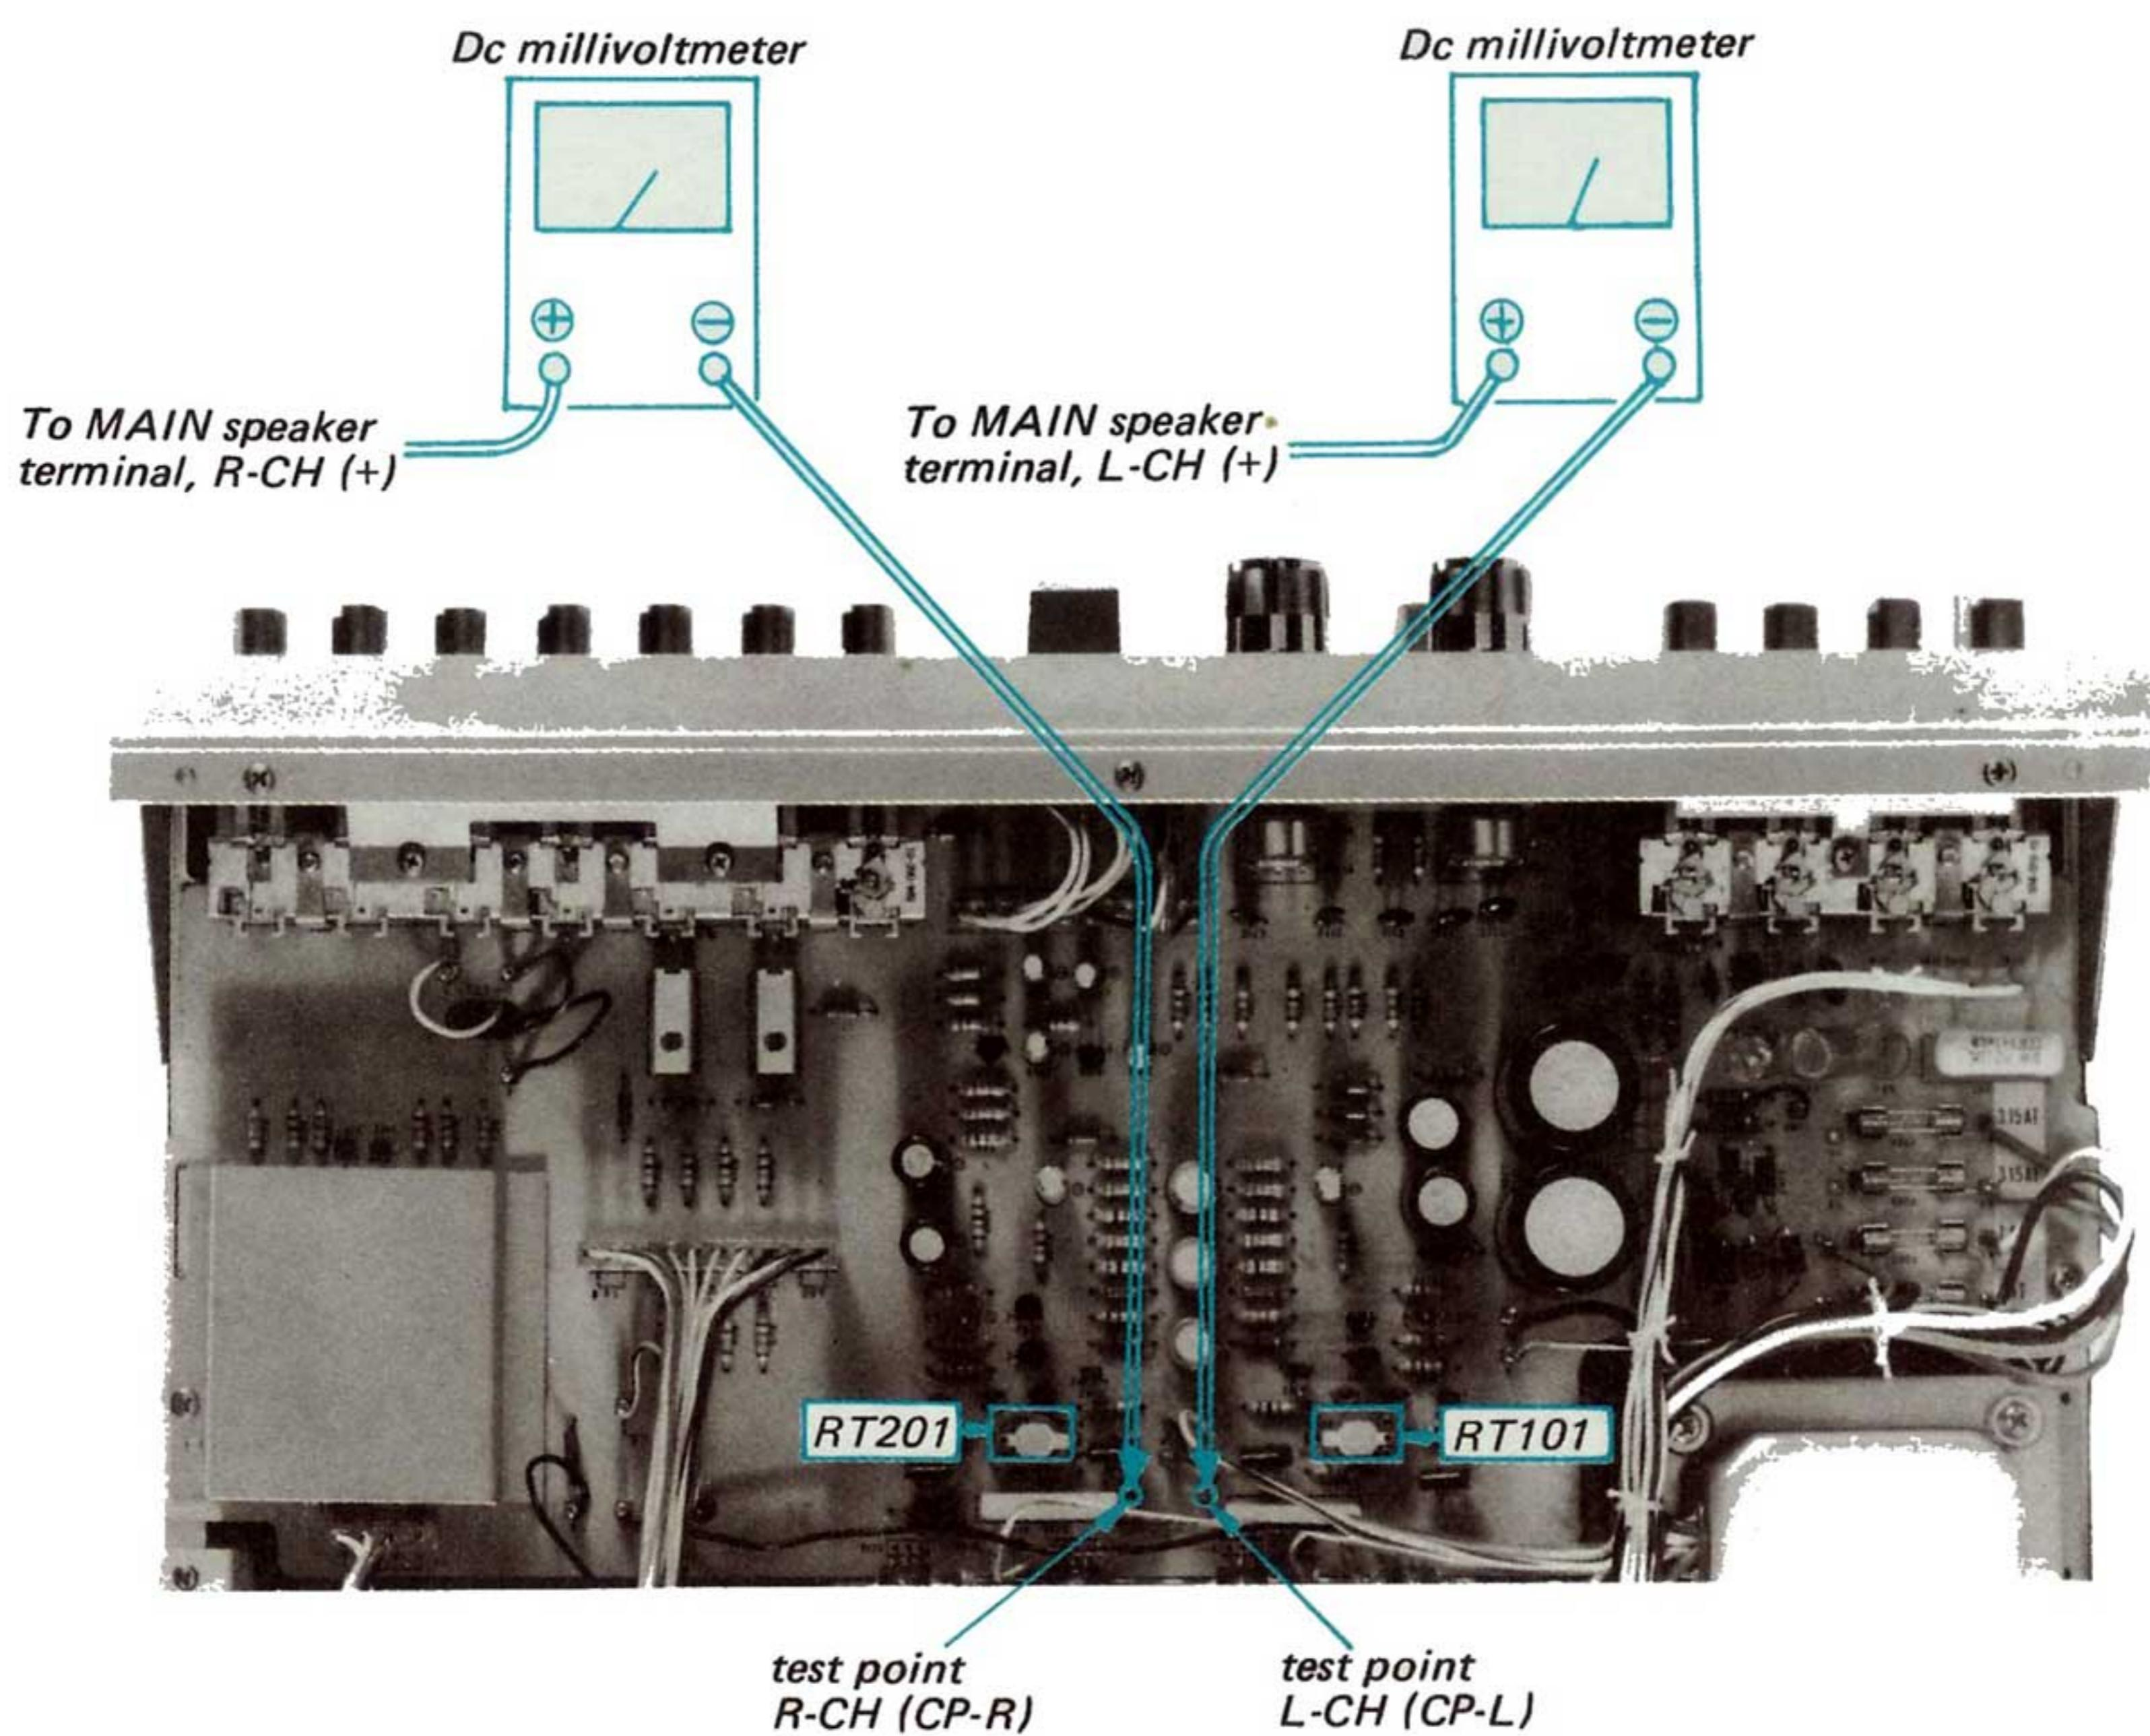

Fig. 3-1. Dc millivoltmeter connection and parts location
Note: This adjustment should be done after replacing any of the power transistors. To avoid accidental power transistor damage, increase the ac line voltage gradually, using a variable transformer, while measuring the voltage across the test point and the MAIN speaker terminal as shown in Fig. 3-1.
2. Connect the dc voltmeter across the MAIN speaker terminal and the test point as shown in Fig. 3-1.
5. Apply a drop of cement solvent to the adjustable resistors RT101, RT201 (See Fig. 3-1) on the circuit board.